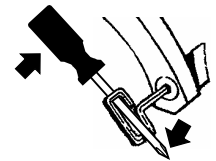

Figure 11
7. Secure screws using screwdriver through bow of dogging key furnished. (Figure 11)